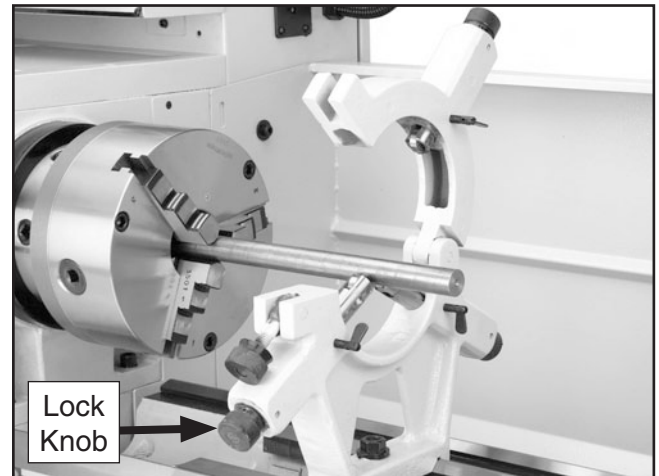

Figure 47. Lock knob.
4. Loosen the lock knob and open the steady rest and fit the workpiece inside of the steady rest (**Figure 47**).